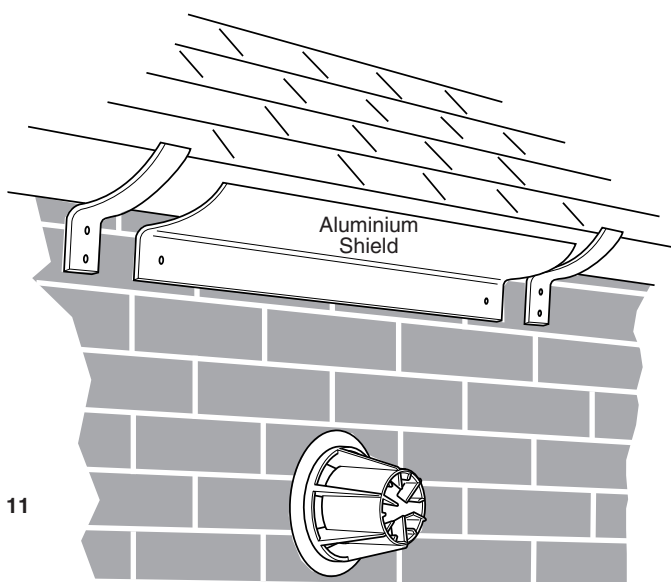

Fig. 11
3. If the terminal is fitted within 1 metre (39in) of a plastic gutter, within 500mm (19½ in) of a painted eave or a painted gutter, an aluminium shield of at least 1 metre (39in) long should be fitted to the underside of the gutter or painted surface. An air space of 5mm ( $\frac{3}{16}$  in) should be left between shield and gutter (Fig. 11).